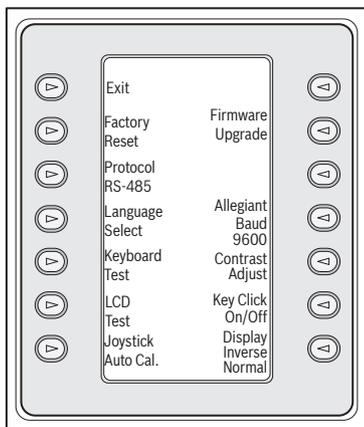

Figure 3.10 Keyboard Control Menu
3. The Softkey Display shows the Keyboard Control main menu (see *Figure 3.10*). A review of the Keyboard Control menu options follows.